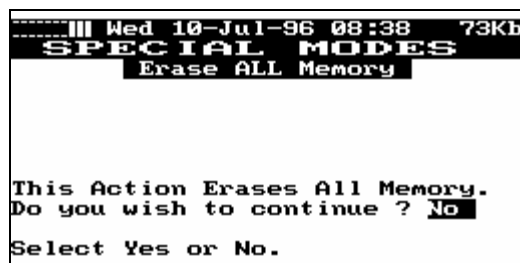

Figure 28
- SM16** Select “**3--Erase ALL Memory**” and press **[ENTER]**. The screen, in figure 28 below, will be displayed. The answer field automatically defaults to **No** to prevent you from accidentally erasing all memory. If you do not wish to continue with the Erase ALL Memory function, make sure the **No** is displayed in the answer field and press **[ENTER]**. The screen will return to the “Manage Data” menu screen. If you do want to erase ALL Memory, which includes data and loaded procedures, press any **[ARROW]** key to toggle the answer field to **Yes** and press **[ENTER]**. All Memory will be erased and the screen will return to the “Manage Data” menu screen. You will now have only the basic analyzer functions available until a procedure is loaded or reloaded into memory.